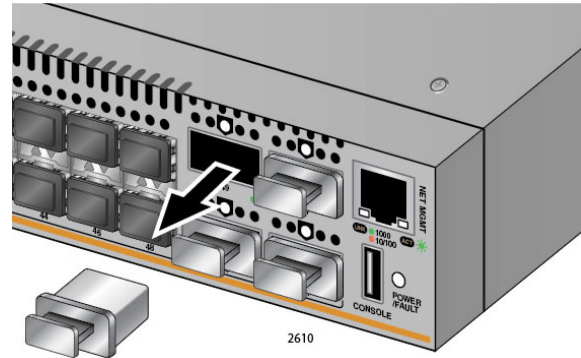

Figure 37. Removing QSFP+ Slot Dust Cover
2. Remove the dust cover from the chassis QSFP+ slot. See Figure 37 on page 76.